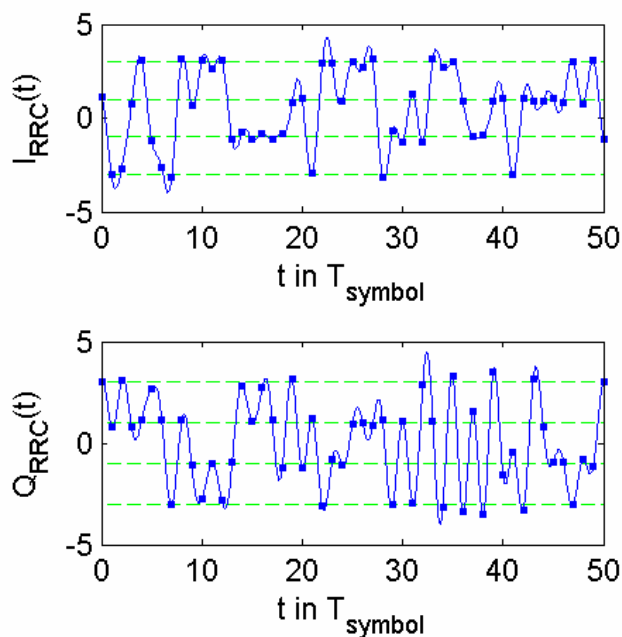

Fig. 2-47 Root raised cosine filtered dirac signals  $I_{\text{RRC}}(t)$  and  $Q_{\text{RRC}}(t)$
In a cable TV receiver, a filter of the same shape is used as RX filter. The combination of two root raised cosine filters, one in the transmitter (TX) and another one in the receiver (RX), has a very strong property: There will be no inter-symbol interference at the RX filter's output. Due to this property it is very easy for the receiver to retrieve the transmitted symbols. Please note, that in a real-world scenario the channel (causing echoes / multipath propagation) causes inter-symbol interference. In that case the use of an equalizer is recommendable. Fig. 2-47 shows the signals  $I_{\text{RRC}}(t)$  and  $Q_{\text{RRC}}(t)$  that result from filtering  $I_{\text{dirac}}(t)$  and  $Q_{\text{dirac}}(t)$  with the root raised cosine filter **RRC**.